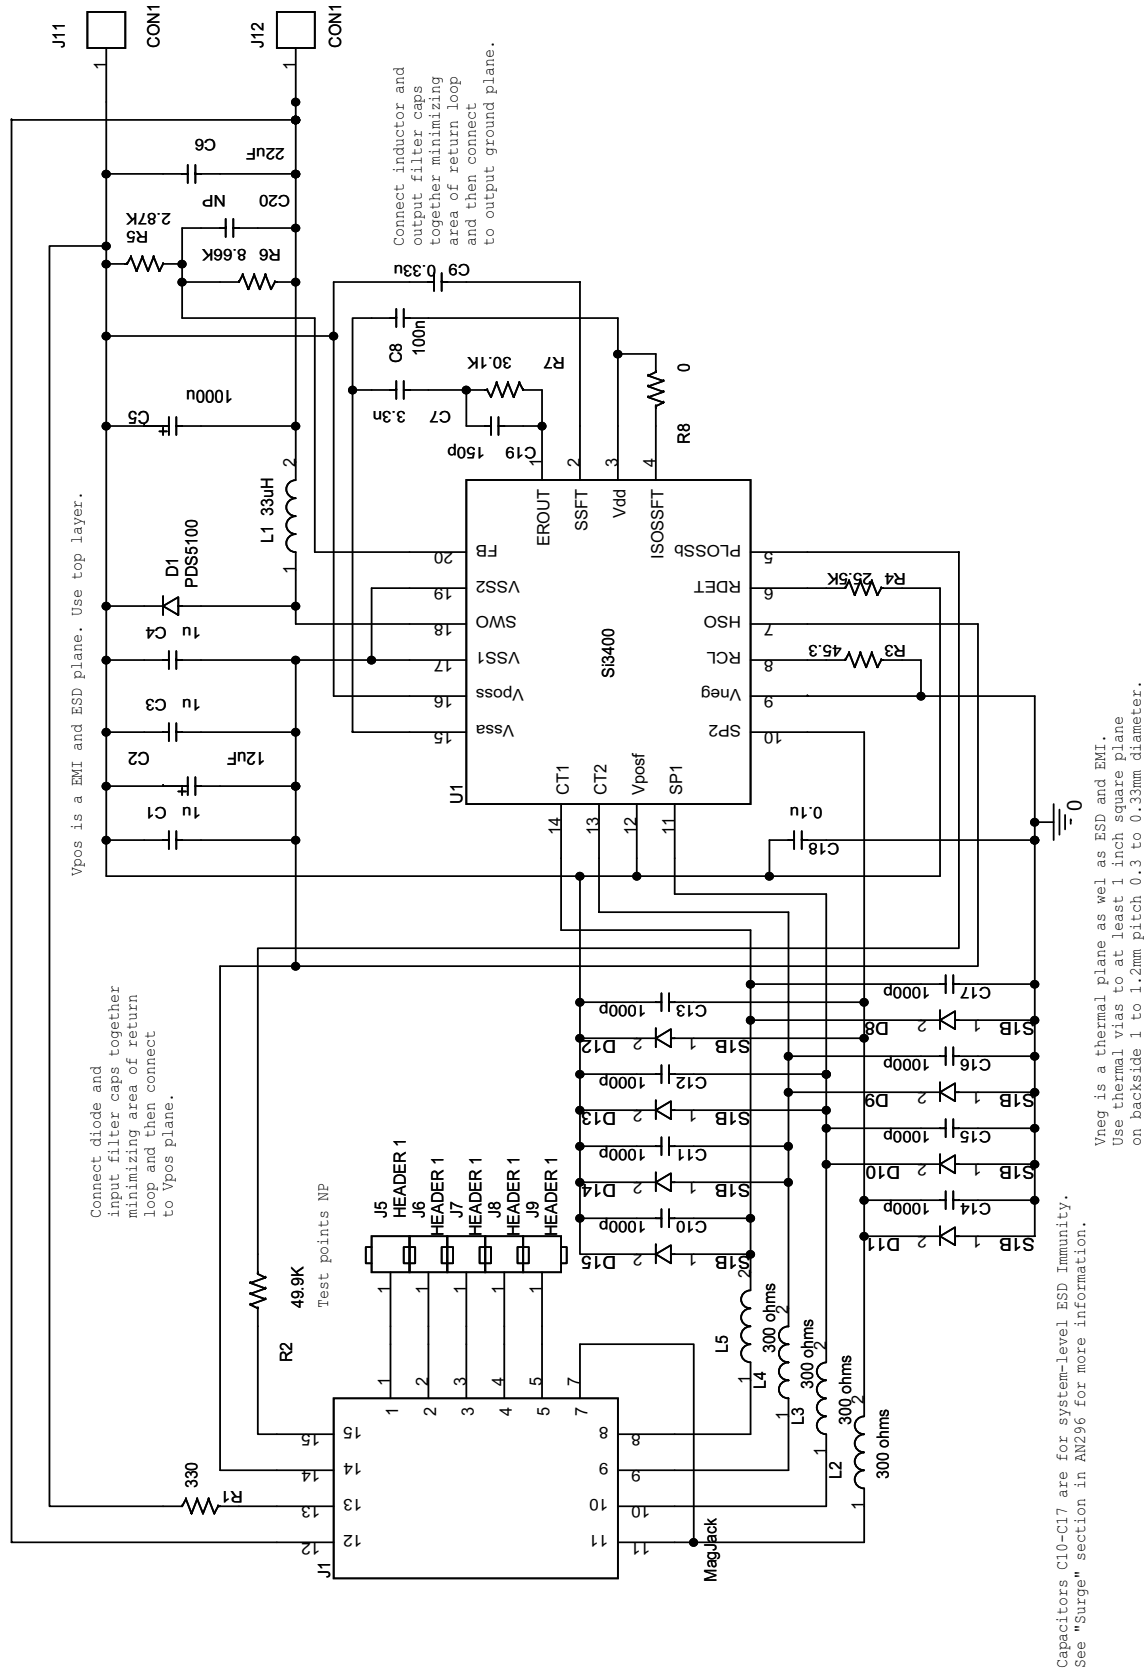

Figure 1. Si3400/01 Schematic—5 V, Class 3 PD
The Si3400-EVB and Si3401-EVB board schematics and layers are shown in Figures 1 through 6. The evaluation boards for the Si3400 and Si3401 are essentially identical; the only differences being that the diode bridges are bypassed (populated) and that the PD controller on the Si3401-EVB is the Si3401.
- g. Based on your required PD power level, select the appropriate class resistor value by referring to Table 2 of AN296. This sets the Rclass resistor (R3 in Figure 1 on page 2).